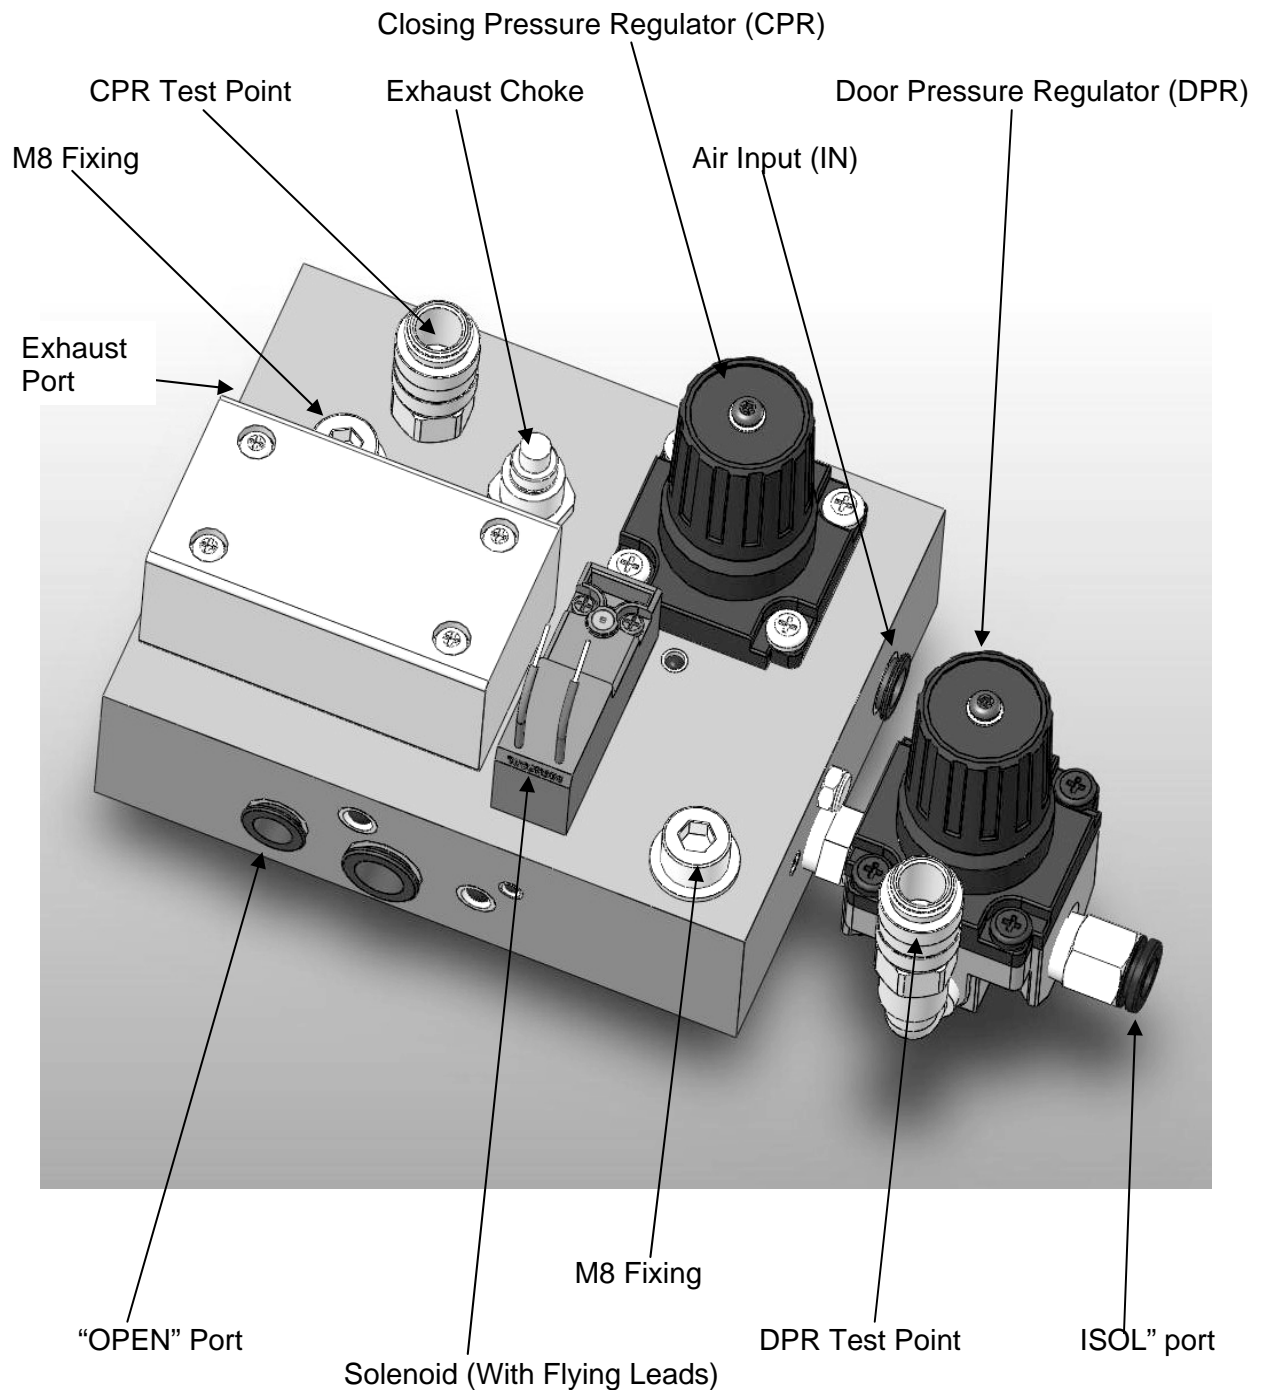

Figure 2: Modified Type Door Control Module
2.4.1 Using a Druck gauge (see Special Tools item 1) or similar, check the pressure at the CPR test point (see Figure 2) (closing pressure) is 0.5 bar.
2.4.2 Using the same gauge, check the pressure at the DPR test point (see Figure 2) (opening pressure) is 2 bar.